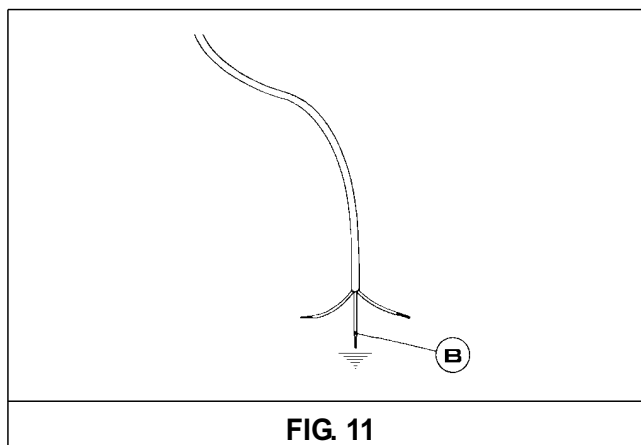

FIG. 11
If the power supply cable is replaced, the installer should leave the ground wire (B) longer than the phase conductors (fig. 11) and comply with the recommendations given in paragraph 6.